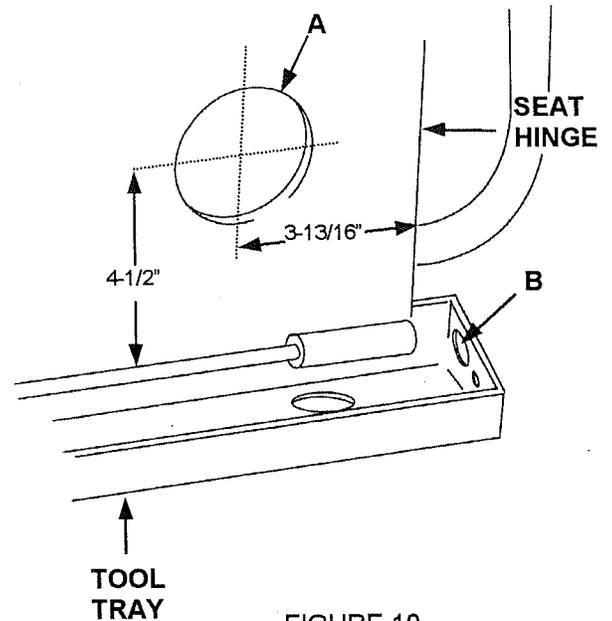

FIGURE 10
4. (See figure 10) Enlarge hole (B) in tool tray to 7/8". Remove burrs and paint bare metal.
6. Install seat on seat hinge. The switch wires must pass through hole (A) in hinge.
NOTE: Loaders built before S/N 17191387 (1997) will need 3" diameter hole (A) added. Remove burrs and paint bare metal. (See figure 10)